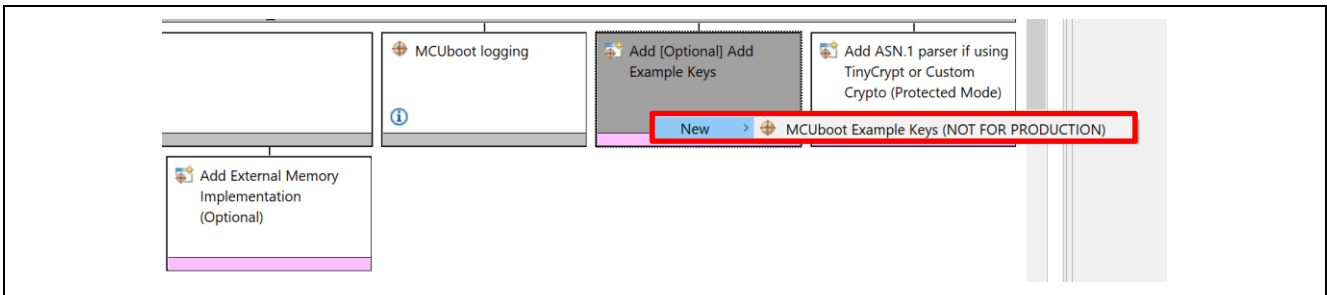

Figure 33. Add the MCUboot Example Key
- The default public keys are defined in `/ra8p1_bootloader/ra/mcu-tools/MCUboot/sim/mcuboot-sys/csupport/keys.c`. (Available after completing “Add MCUboot Example Keys” (Figure 33) followed by Generate project content)